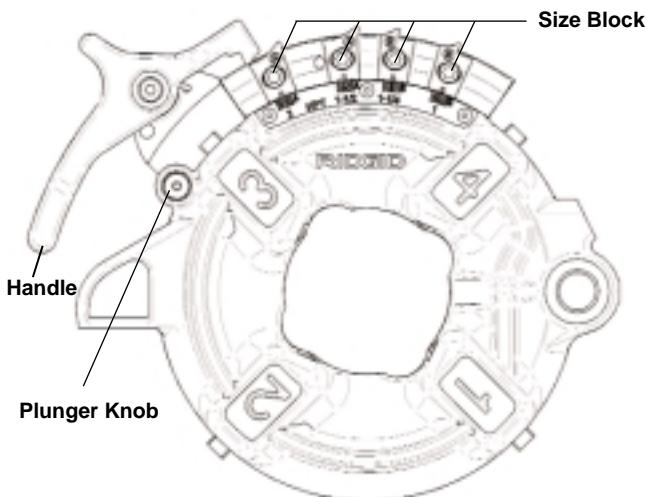

Figure 11 – Semi-Automatic Die Head
- Semi-Automatic Die Head (*Figure 11*) – When the end of the pipe being threaded is flush with the end of the number 1 die, tap the handle for the dies to release the pipe.
The Semi-Automatic Die Head (*Figure 11*) for right hand threads requires four sets of dies to thread pipe ranging from $\frac{1}{8}$ " through 2". One set of dies is required for each of the following pipe size ranges: ($\frac{1}{8}$ "), ($\frac{1}{4}$ " and $\frac{3}{8}$ "), ($\frac{1}{2}$ " and $\frac{3}{4}$ ") and (1" through 2"). Bolt threading requires a separate set of dies for each bolt size.